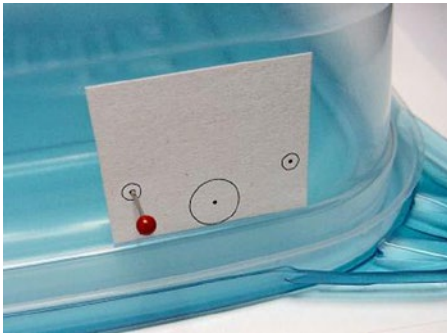

Figure 24-7. Outlines printed on a sticker and placed on the container. Push pin being inserted into each center dot to create pilot holes
1. Cut the labels and closely trim the edge on the side nearest the motor shaft cap circle (see the side below the largest circle in Figure 24-7).
2. Place one label on each side of the container. The motor shaft cap circle should be far enough toward the rear of the container to allow the breadboard to fit toward the front. Also be sure that the larger circle is placed directly against the inner edge of the container lip (again, see Figure 24-7). For Sandwich, the center of the motor shaft ended up about 4.5 cm from the rear lip of the container.
1. Insert and remove a pushpin into the center of each circle on the sticker (again, see Figure 24-7). This creates tiny pilot holes that guide the drill into the centers.